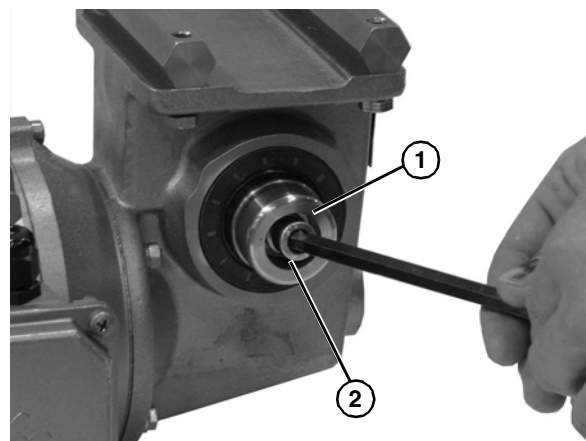

Figure 45
5. Attach the bore plug (Figure 45, item 1) and tighten the socket head screw (Figure 45, item 2). Snap cover onto bore plug (Figure 45, item 1).